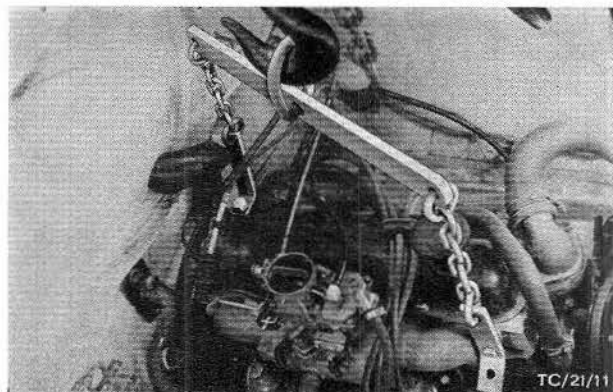

Fig. 12. Remove engine using lifting Tool G2-6000.
9. Support gearbox and lift engine out of vehicle with Special Tool G2-6000, Fig. 12, and P-6171.